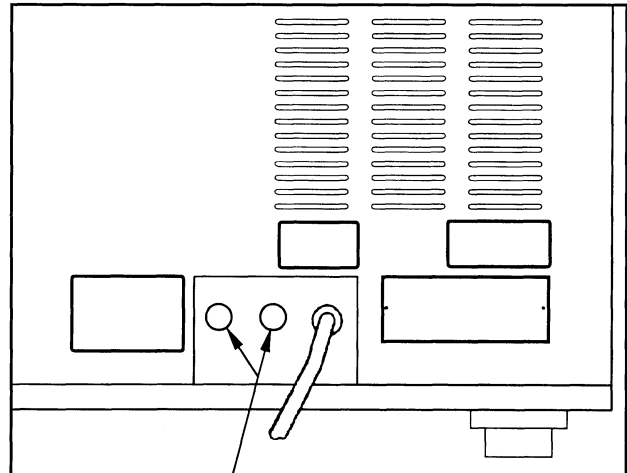

Figure 8-1
1. The Coverslipper contains one fuse in Model 4764 (115 VAC) and model 4765 (240 VAC). Two fuses are used in model 4765 (220 VAC). These fuses may need to be replaced. Figure 8-1 shows the location of the instrument line fuse(s).